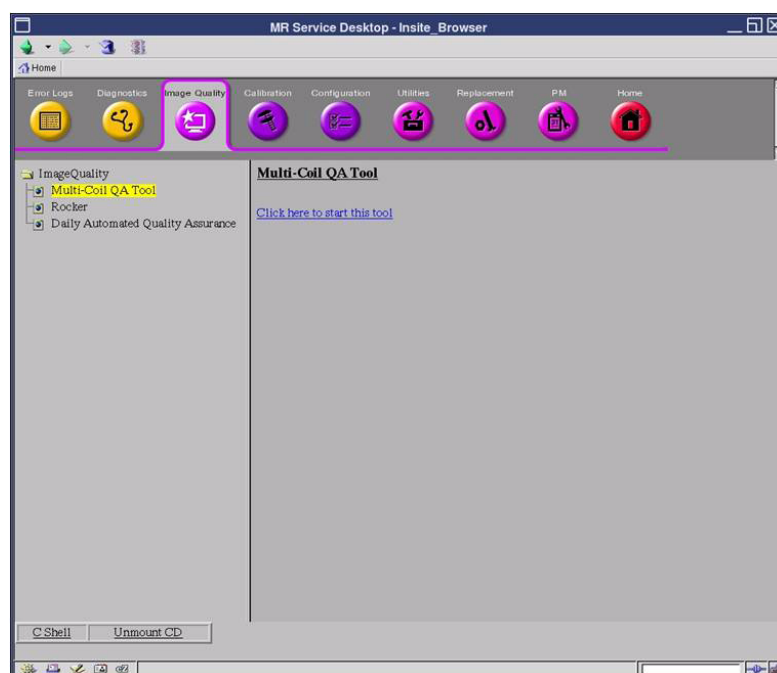

Figure 4-1 Select MCQA tool from the MR service desktop window
1. From the MR service desktop window, Image quality tab, select Multi-Coil QA Tool, as shown in Figure 4-1.
- From the MR service desktop window, Image quality tab, select Multi-Coil QA Tool, as shown in Figure 4-1.